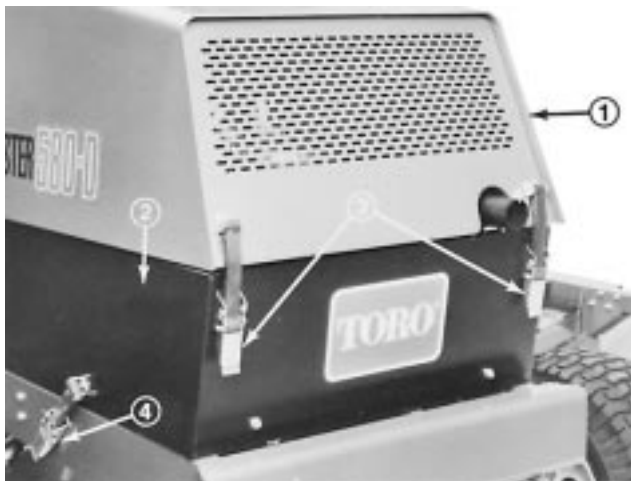

Figure 23
1. Unlatch, raise and prop engine hood open and remove left side panel (Fig. 23).